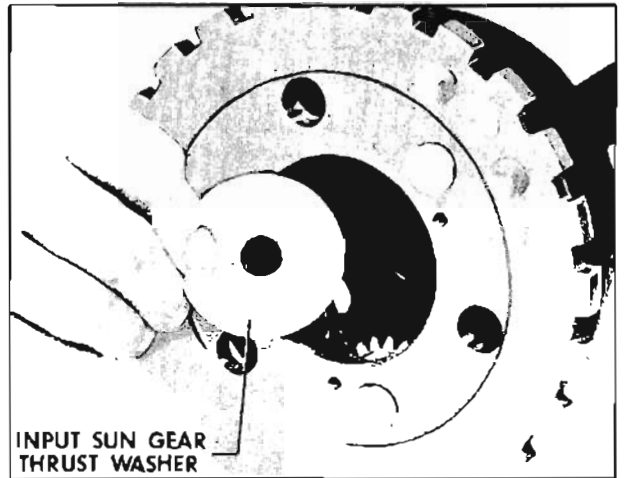

Fig. 6-400 Installing Thrust Washer
6. Install the input sun gear thrust washer with the oil groove facing input sun gear. (Fig. 6-400)